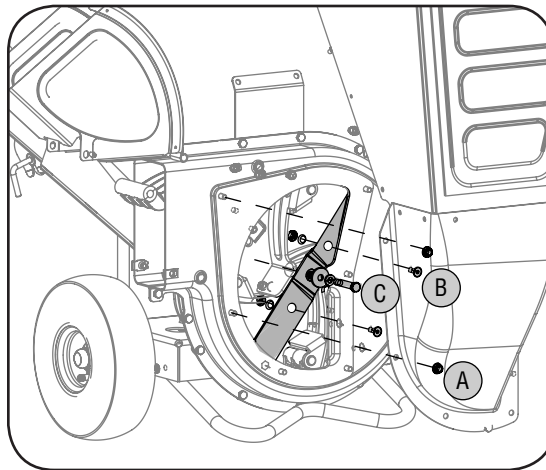

Figure 5-4
- a. Remove six flange nuts which secure hopper inlet guide to impeller housing. See Figure 5-4.
- b. Remove the two internal hex screws, hex lock nuts, and lock washers which secure the shredder blade to the impeller. See Figure 5-4.
- c. Remove the hex bolt, lock washer, and flat washer to completely free shredder blade. See Figure 5-4.